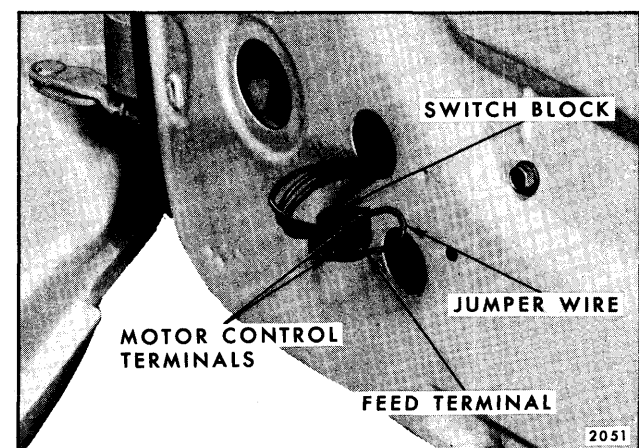

Fig. 16-12—Checking Window Control Switch
1. Insert one end of a #12 gauge jumper wire to the switch feed terminal and the other end to one of the motor lead terminals in the switch block. Repeat this check on the remaining motor lead terminal (See Fig. 16-12).
one of the motor lead terminals in the switch block (See Fig. 16-12).
2. Insert one end of a #12 gauge jumper wire in the switch feed terminal and the other end in one of the motor lead terminals of the switch block (See Fig. 16-12).